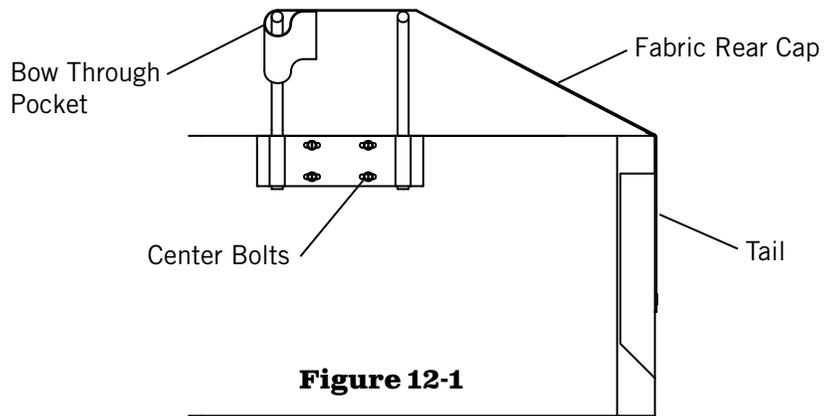

Figure 12-1
5) **Figure 12-1.** Feed bow through pocket of fabric cap and install on trailer. On adjustable bows remove bolt and pin. Orient the bow so the end with the removable pin is on the passenger side.